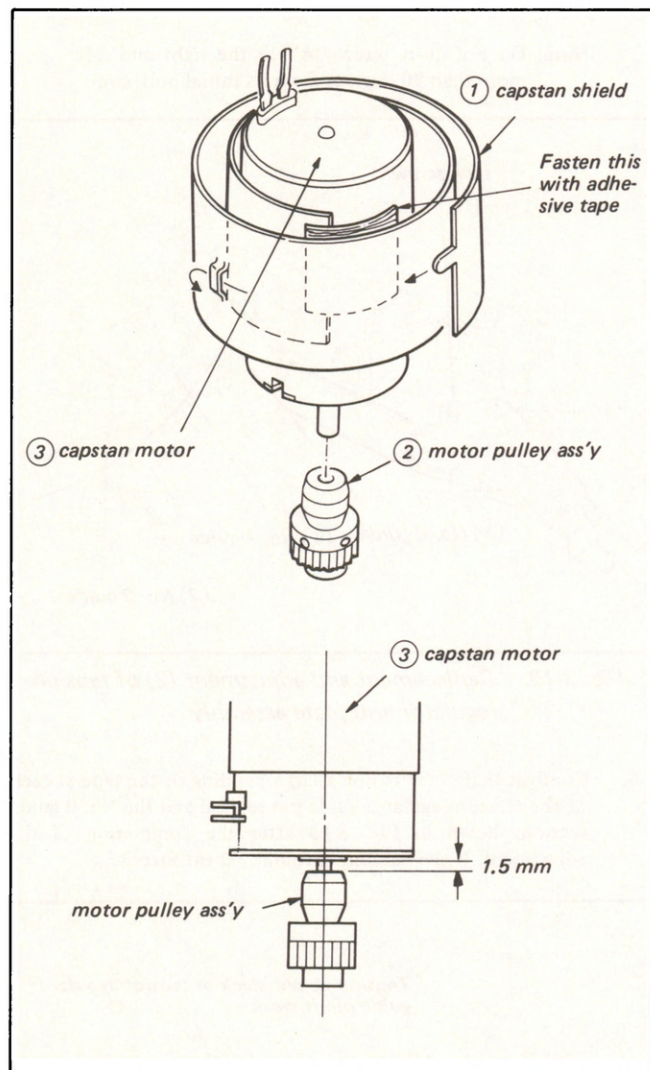

Fig. 3-9. Replacement of DC motor
4. Remove capstan shield ① and motor pulley assembly ② from the defective motor and install them on the replacement motor. (See Fig. 3-9.)